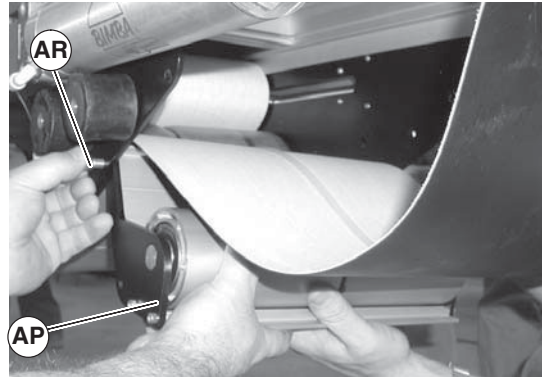

Figure 70
3. Swing down idler guard assembly (Figure 70, item AP). Remove screw (AR) from both sides of center drive and remove idler guard assembly (AP).